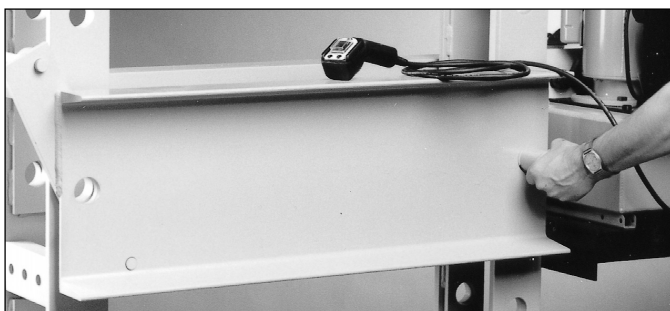

Figure 8
8. Twist and pull to remove the remaining bed pin. See Figure 8.